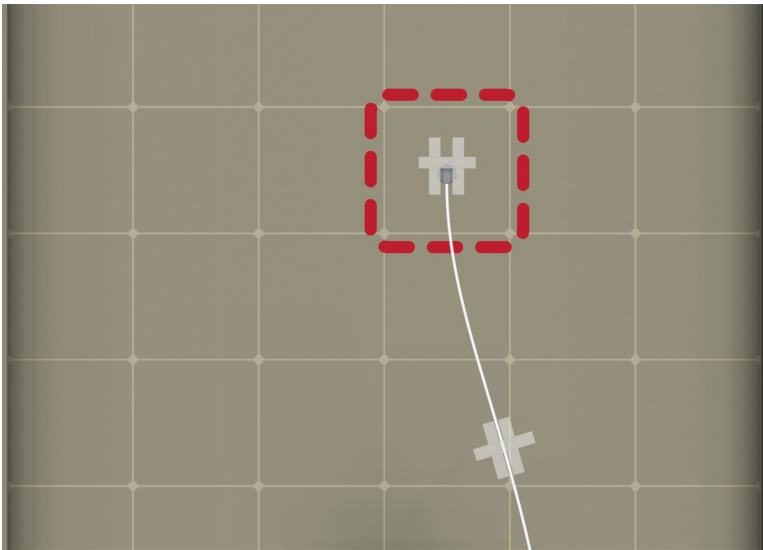

Figure 7-5. Proper tape usage
2. Place the other strips of tape perpendicular and on top of the first strip of tape and rub the tape surface to remove bubbles (see Figure 7-5 [p. 16]).